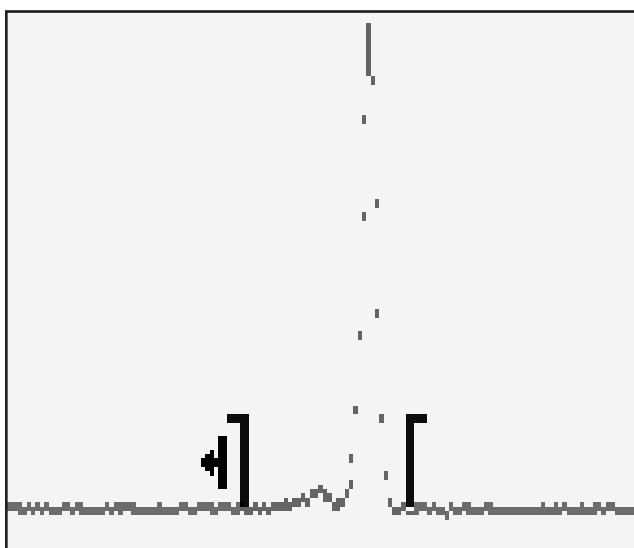

Figure 17 The Mouse Cursor, the Two Region Markers and the Spectrum Cursor
The region markers look like an “upside down L”, with the horizontal part pointing to the left for the left marker, and right for the right marker. Figure 17 on page 15 illustrates the region markers.
1. With the mouse: Move the spectrum cursor to the outside edge of the marker you want to move. When the cursor turns into a vertical bar with an arrow attached to it (see Figure 17 on page 15), dragging with the mouse will move the region marker.
Figure 17 shows the mouse cursor on the left (with an arrow), the two region markers and the spectrum cursor, the vertical line at the top of the peak.